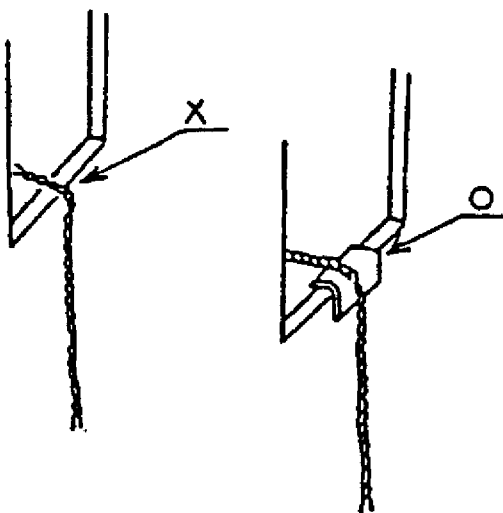

Fig. 3-2-1
- (1) Do not use rope that shows clear signs of deterioration or distortion, or rope that has soaked up moisture.
- (2) Do not step on rope or drag it along the ground.
- (3) Do not give rope any sudden access of load, or abrasion.
- (4) Do not drop rope from a high place while still coiled or drop any heavy object on top of a rope.
- (5) When hanging the rope over an edge or other protrusion, place a blanket, cloth, or other material underneath to absorb the shock. (Fig. 3-2-1)